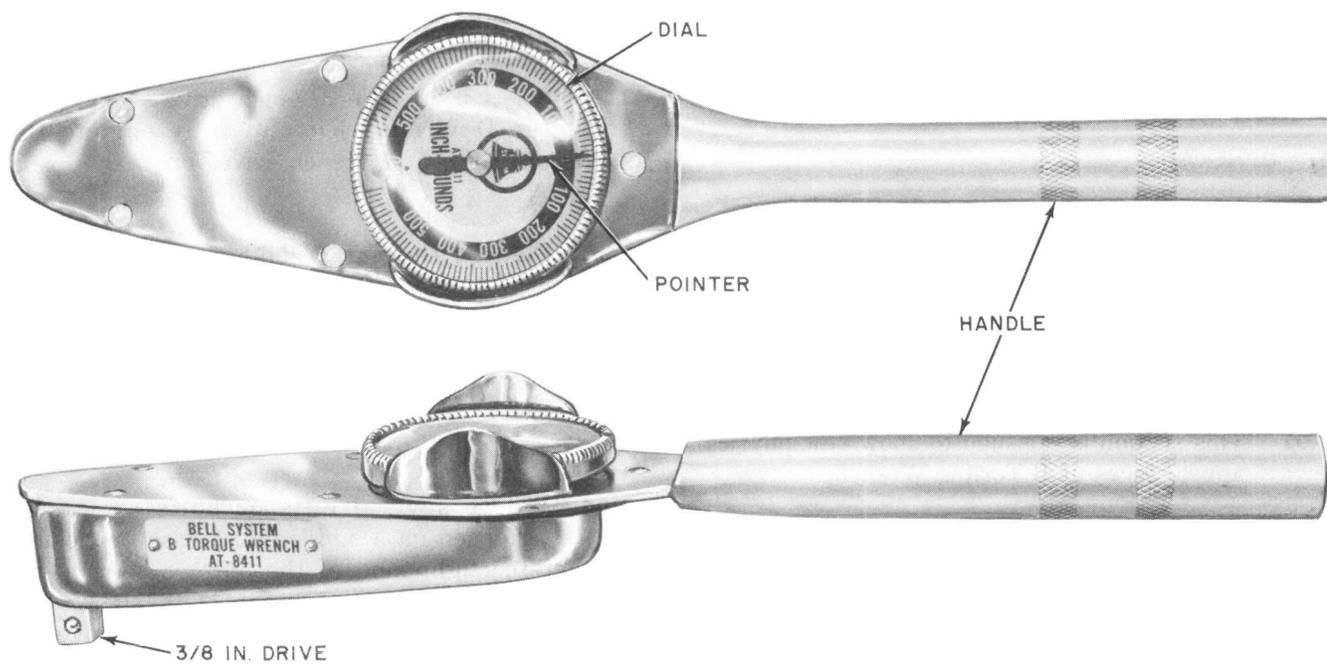

Fig. 1—B Torque Wrench
2.01	The B Torque Wrench (Fig. 1) has a 3/8-inch square drive and a gauge covering a torque range of 0 to 600 inch-pounds in 10 inch-pound increments in either direction.